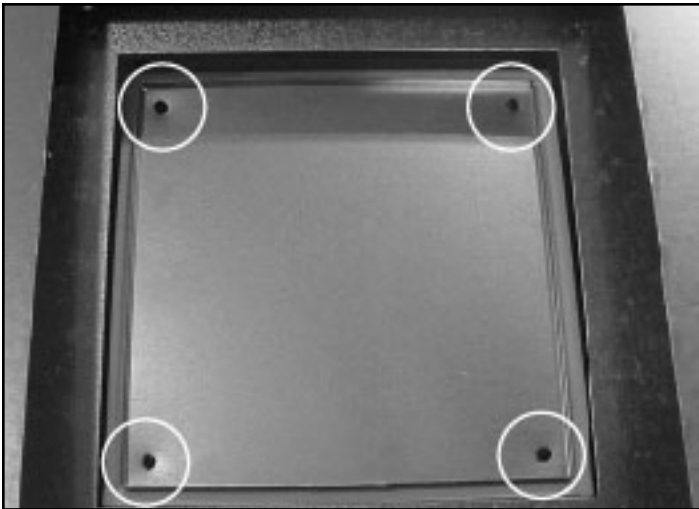

Figure 7.13 Outer Cover-Top
- Place outer cover plate on appliance top and replace four screws to hold outer cover plate in place. See Figure 7.13. Make sure insulation is replaced with cover plate!